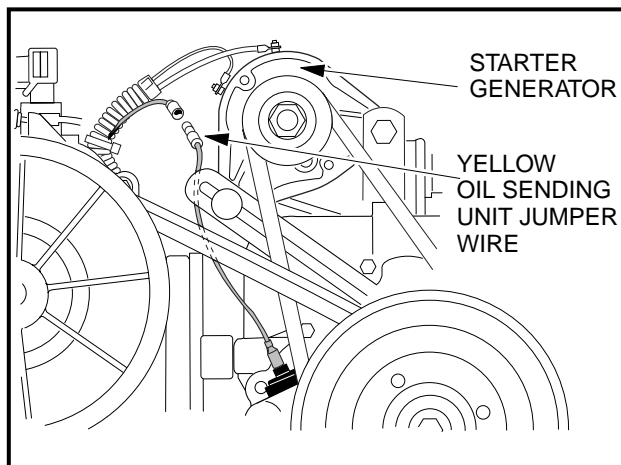

Figure 16-95 Oil Level Sensor Jumper wire
20. Connect the oil level sensor wire (18 gauge yellow) to the jumper wire (**Figure 16-95, Page 16-37**).